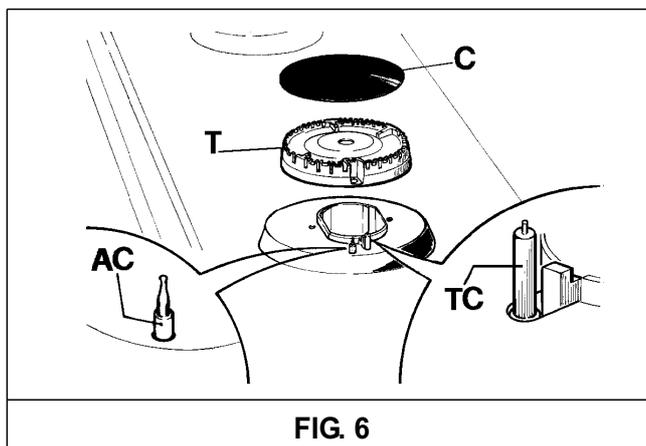

FIG. 6
Periodically wash the hot plate, the enamelled steel pan support, the enamelled burner caps "C" and the burner heads "M" (see fig. 6) with lukewarm soapy water. Following this, all parts should be thoroughly rinsed and dried. Never wash them while they are still warm and never use abrasive powders. Do not allow vinegar, coffee, milk, salted water, lemon or tomato juice from remaining in contact with the enamelled surfaces for long periods of time.
- **check that burner head slots "T" (fig. 6) have not become clogged by foreign bodies.**
- **Check that enamelled burner cap "C" (fig. 6) have correctly positioned on the burner head. It must be steady.**